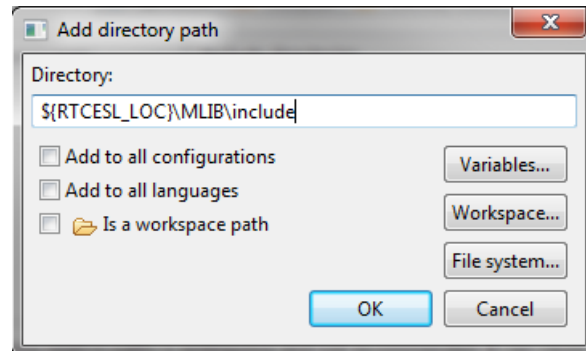

Figure 1-15. Library include path addition
28. Click the Add... button on the right, and a dialog appears. See Figure 1-15.